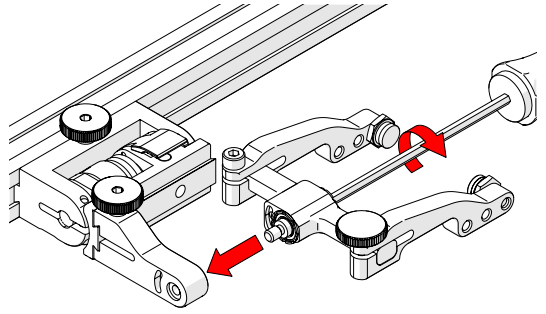

Fig. 135 - Install yoke to swing arm
6. Using the 3 mm hex driver, screw the yoke pivot screw into the opposite side of the probe holder swing arm (Fig. 135). Ensure the yoke is level to avoid issues with the plunger/set screw.